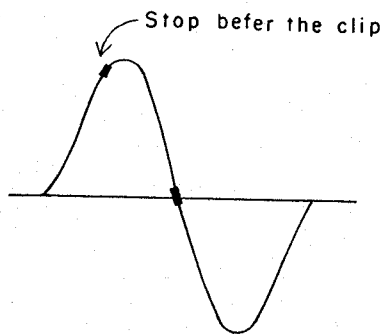

Fig. 134
- 2) Connect the alignment scope to the AFC terminal (Pin ⑤ of P9).
- 4) Stop with IF AGC volume before the waveform is clipped (Fig. 134).